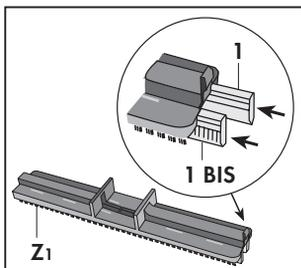

Fig. 15
- Bristled frame (Z1) with rubber inserts (1 and 1BIS) for hard floors and surfaces (Fig. 15).